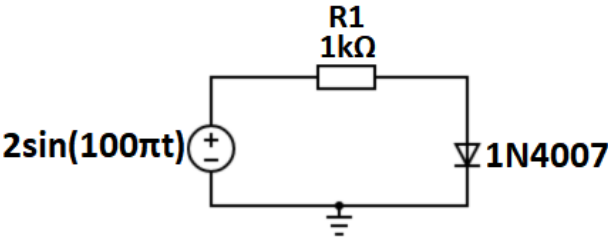

Fig. 1: Circuit of Diode Analysis
1) *Circuit Diagram of Task 1:* The circuit shown in Figure 1 consists of one diode, a voltage source generating a sinusoidal waveform, and a resistor. This setup will be used to observe and analyze the diode's I-V characteristics.
- 1) **Circuit Assembly:** Assemble the circuit as shown in Figure 1. Ensure all components, including the